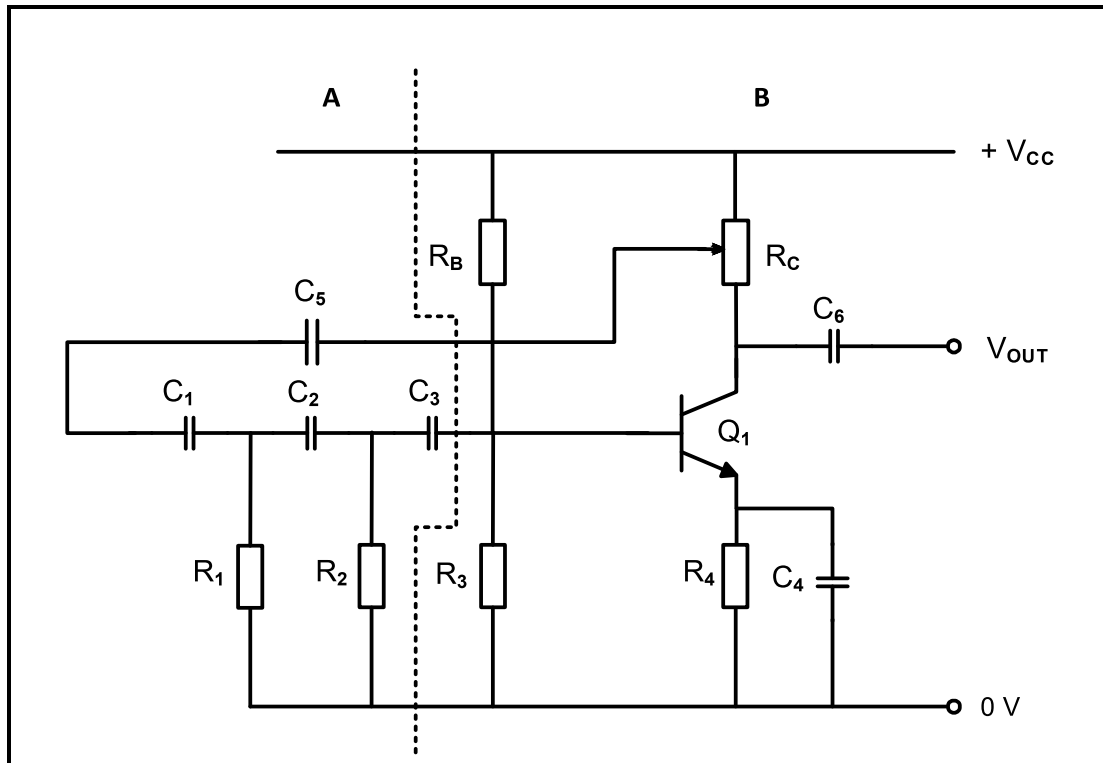

FIGURE 6.11: OSCILLATOR
6.11 Refer to FIGURE 6.11 below and answer the questions that follow.
- 6.11.1 Identify the oscillator in FIGURE 6.11 above. (1)
- 6.11.2 Name **A** and **B** in FIGURE 6.11 above. (2)
- 6.11.3 Explain how the circuit in FIGURE 6.11 above obtains a 360° phase shift. (2)